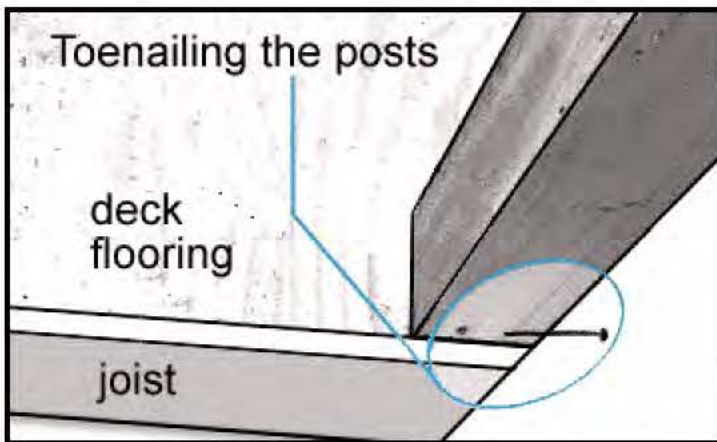
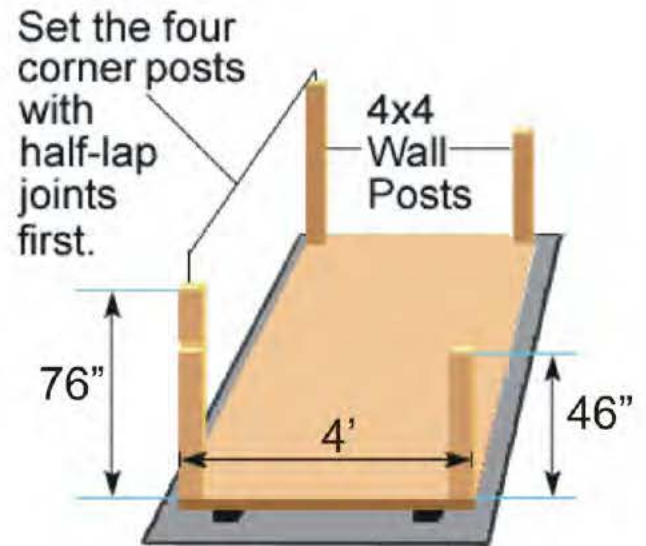

Figure 2
Figure 3
Step 2. Toenail (nailing in by angle) in the four 4x4 corner posts first. Align them flush into the corners. Blind nail posts (where they won't be visible) into the deck where possible. Figure 2. The 76" front posts should be placed with half lap notch to outside. 46" posts placed at rear corners. Figure 3. Use three 16d framing nails for each outer side of the post where the siding will cover the nails. If necessary, use additional nails on the interior sides of the posts.